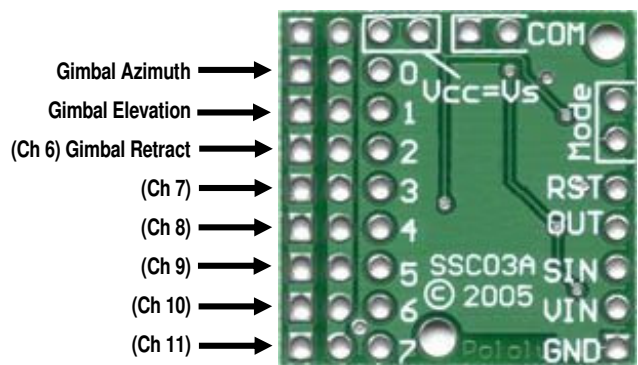

Figure 1 - Port Mapping
This section describes ports or pin out on the Expansion Board, including servo mapping between Expansion Board ports and Kestrel autopilot channels. The mapping for all Expansion Board ports to Kestrel autopilot channels is shown in Figure 1.
**0-7:** Three pin servo ports. Each port contains a ground (GND), power (Vcc=Vs), and signal pin. All ground pins are tied together and to the PCB common ground. All power pins (Vcc=Vs) are connected together through the PCB. Ground pins lie near the PCB edge. Signal pins lie next to the PCB silkscreen label. These ports, shown in Figure 1, are labeled "0" through "7".